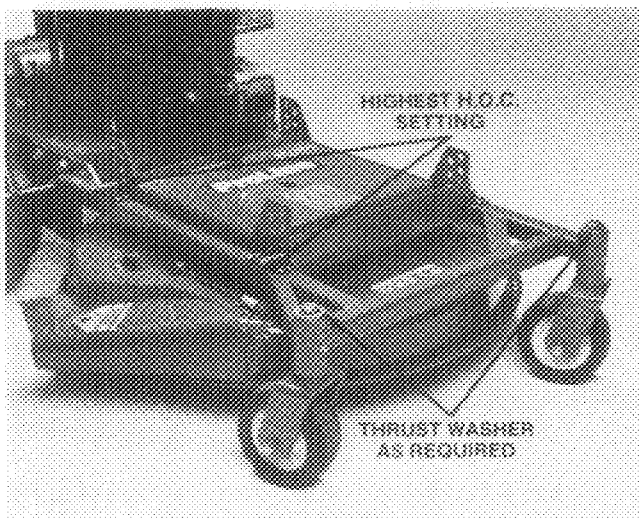

Figure 14
1. Check to make sure front support rod is resting properly on frame cushions (Fig. 14). Make sure blade is not bent: refer to Checking for Bent Blade, page 9. Check air pressure in tires.
2. Raise height-of-cut to the 3-1/2" (89 mm) or 4 in. (102 mm) position (Fig. 14). refer to Adjusting Height-Of-Cut, page 7.
- A. Cutting units usually operated at 1 to 2 in. (25 to 51 mm) height-of-cut should have the low side of the cutting unit raised. Remove the lynch pin securing castor wheel on low end (Fig. 14) and remove castor assembly.
- C. If cutting unit is operated at 2 to 4 in. (51 to 102 mm) height-of-cut, lower the high side of cutting unit. Remove lynch pin of castor at high end of unit and remove castor assembly (Fig. 14).
- D. Transfer one thrust washer from lower side of castor shaft to top side, install assembly and check blade height; refer to items 3 through 7. Repeat procedure if height still does not meet requirements.